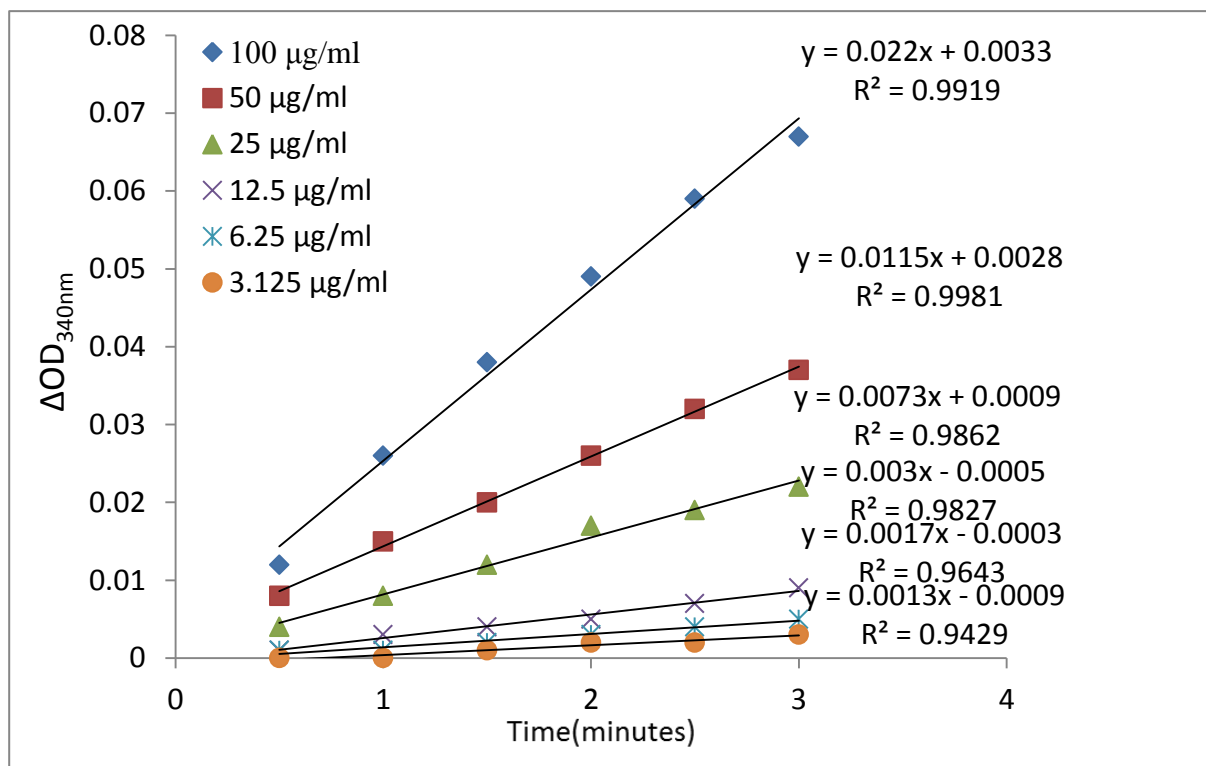

Figure1. Standard curves of  $\Delta OD_{340nm}$  vs reaction time for ammonia solution with different concentration.
Serially diluted ammonia solutions with concentrations ranging from 3.125 to 100  $\mu$ g/mL are measured with the ScienCell™ Ammonia Assay kit. The change in OD340nm is monitored as a function of time (Figure 1) and the resulting standard curve of  $\Delta$ OD340nm/min vs ammonia concentration are plotted (Figure 2). A positive linear relationship between  $\Delta$ OD340nm/min & ammonia concentration can be observed.
- of reaction time (Figure 1) in which  $\Delta OD_{340nm} / \text{min}$  is calculated.
Figure2. Standard curve of  $\Delta OD_{340nm}/\text{min}$  vs concentration of ammonia. The  $\Delta OD_{340nm}/\text{min}$  is calculated as the slope of the standard curves shown in Figure 1.